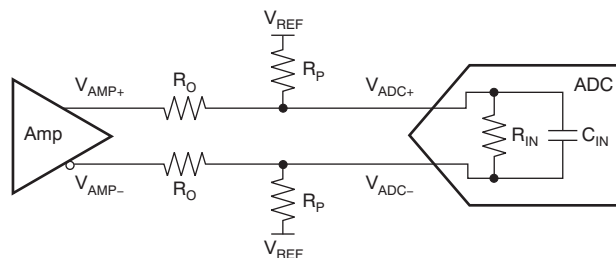

Figure 70. Resistor Network to DC Level-Shift Common-Mode Voltage
0.95 V, respectively. As shown in Figure 70, a resistor network can be used to perform a common-mode level shift. This resistor network consists of the amplifier series output resistors and pull-up or pull-down resistors to a reference voltage. This resistor network introduces signal attenuation that may prevent the use of the full-scale input range of the ADC. ADCs with an input common-mode closer to the typical 2.5-V LMH5401 output common-mode are easier to DC-couple, and require little or no level shifting.
For common-mode analysis of the circuit in Figure 70, assume that $V_{AMP\pm} = V_{CM}$ and $V_{ADC\pm} = V_{CM}$ (the specification for the ADC input common-mode voltage). V_{REF} is chosen to be a voltage within the system higher than V_{CM} (such as the ADC or amplifier analog supply) or ground, depending on whether the voltage must be pulled up or down, respectively; R_O is chosen to be a reasonable value, such as 24.9 Ω . With these known values, R_P can be found by using Equation 15: